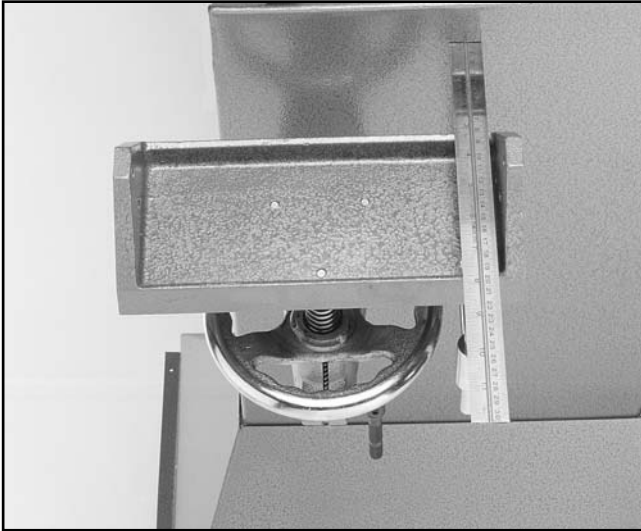

Figure 8. Checking table bracket for parallelism.
7. Measure the table bracket to the stand to assure it is parallel to the stand. **Figure 8.** If the bracket is not parallel, remove the vertical brace, thread the horizontal brace in or out an appropriate amount and reinstall the vertical brace.